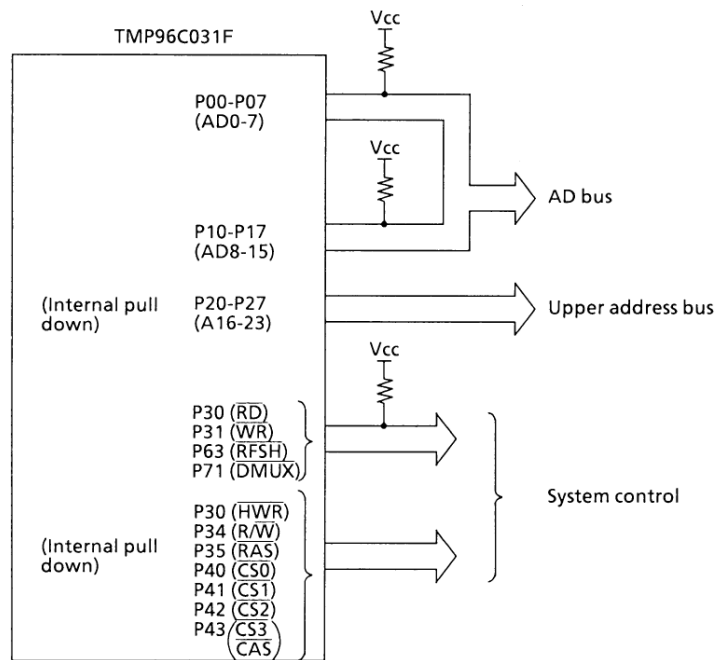

Figure 3.5 (1). External bus interface example when bus release function is in use
Figure 3.5 (2) shows the external bus interface when the bus release function is in use. The internal I/O of this device cannot be accessed when the bus is released.